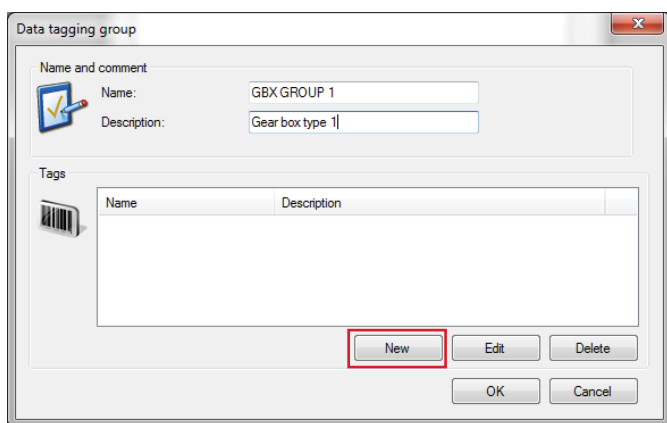

Fig. 4. Create a new tag.
- Once the new tagging group has been created, click **New** in the **Tags** area (→ fig. 4).